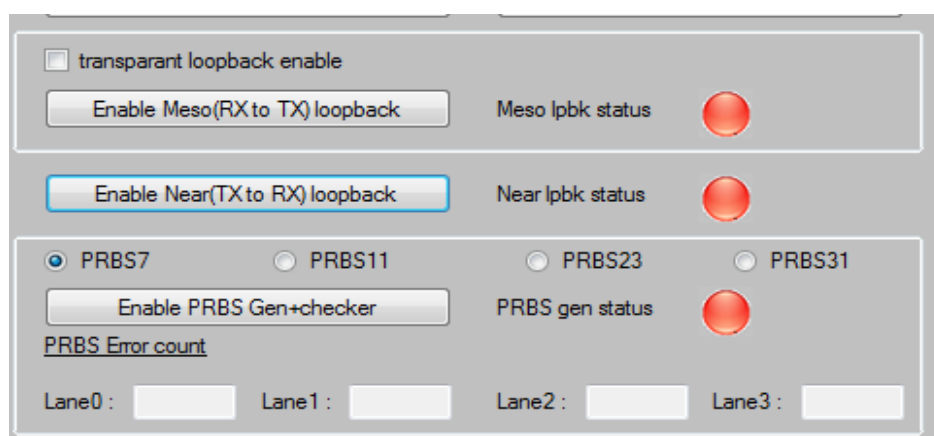

Figure 32 Disabling Internal Loopback
13. Click **Disable PRBS Gen +checker** to stop the packet transmission and click **Disable Near (TX to RX) loopback** to disable the loopback. After clicking, **Near LPBK status** and **PRBS gen status** indicators change to red. Figure 32 shows Disabled Internal Loopback.